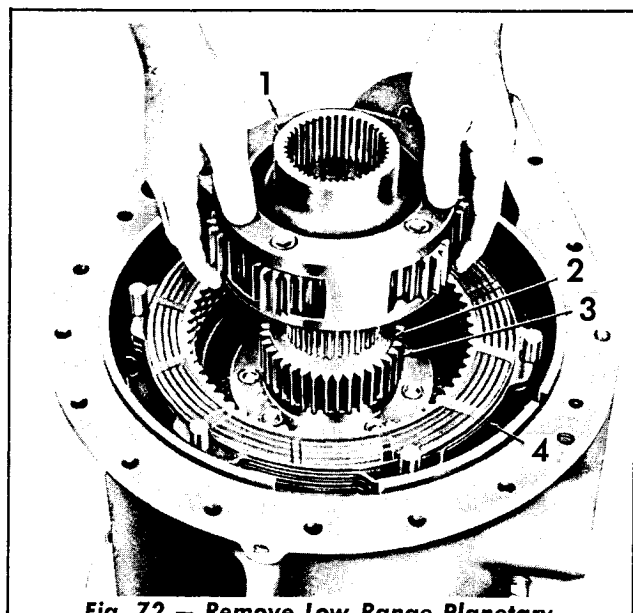

Fig. 72 — Remove Low Range Planetary Carrier Assembly
10. Remove the low range planetary carrier assembly (Fig. 72), the thrust washer, and the low range sun gear. Remove the remaining low range clutch plates (four external and three internal splined).